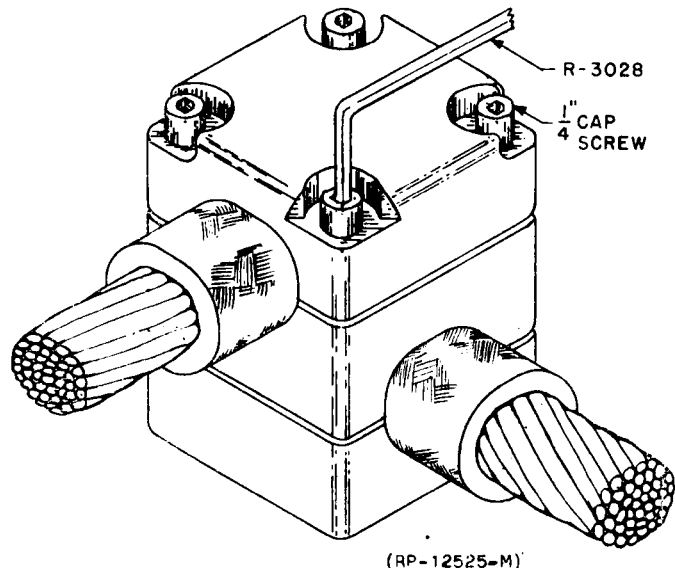

FIG. 6 FRANKEL CAT. NO. 2632 CROSSTAP (PAR. 6.1)
6.1 Prepare, connect, and place covers for the crosstap connector in a manner similar to Paragraph 5 for parallel connectors. Tighten the set screws with an R-3028 wrench (long handle). (See Figure 6.)